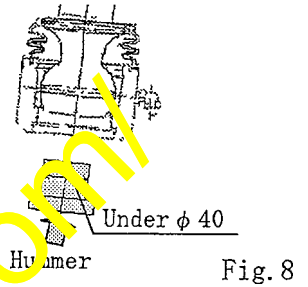

Fig. 8
- Hit the ball stud until the tip end of the ball stud comes out to the upper surface of the housing by use of a hammer. (Refer to Fig. 8 and Fig. 9-1.)
- Precaution ③: When hitting the ball stud by the hammer, use the hitting jig in order not to hit the cylinder head section by an error.